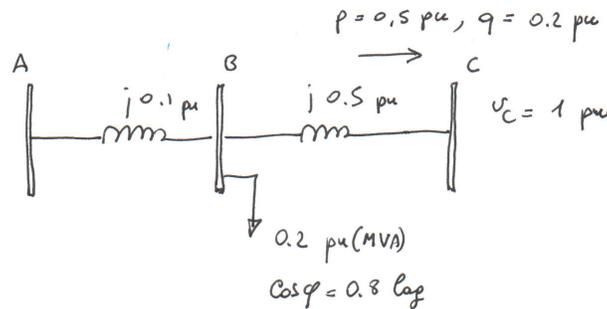

Figure E.2
E.2. For the system shown in Figure E.2, determine the voltage at bus A. Then, assuming that the voltage at bus A is constant and equal to the value previously determined, determine the value of the capacitor to install at bus B to obtain $v_B = 1$ pu.